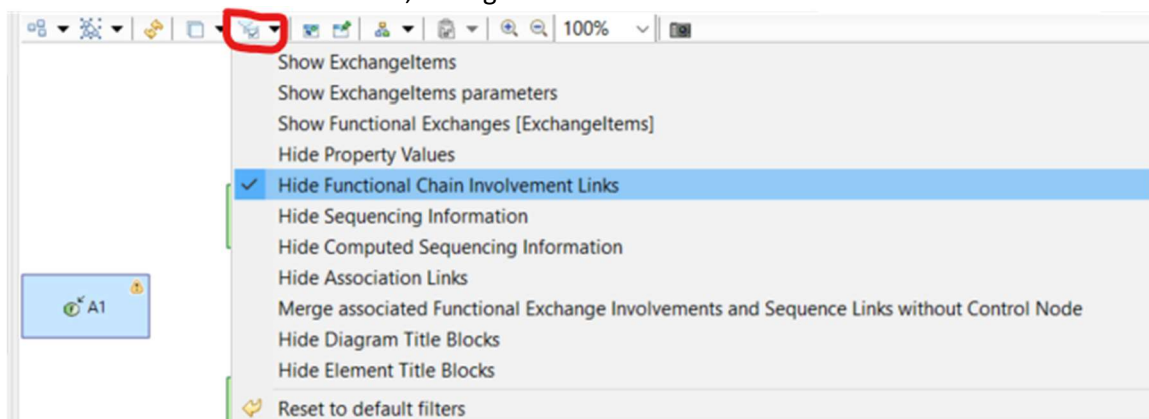

Figure 5 Hide Functional Chains
- First hide the functional exchanges by clicking on drop-down menu of Filters and selecting Hide Functional Chain Involvement Links, see Figure 5.